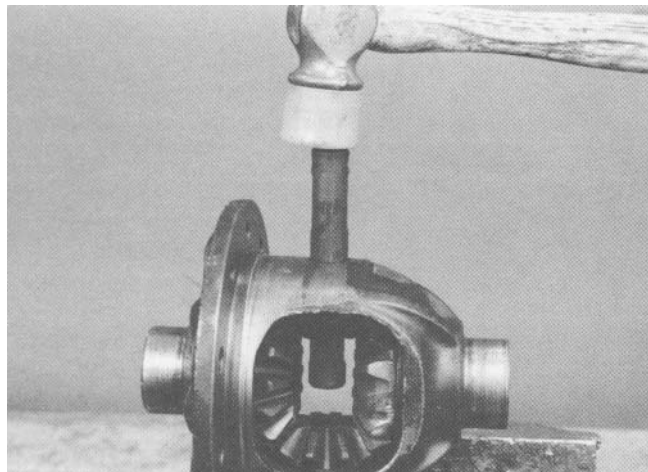

Figure 48
16. Install the pinion shaft. Grease the shaft to aid assembly. Be sure the hole in the pinion shaft lines up with the hole in the differential case (Fig. 48).